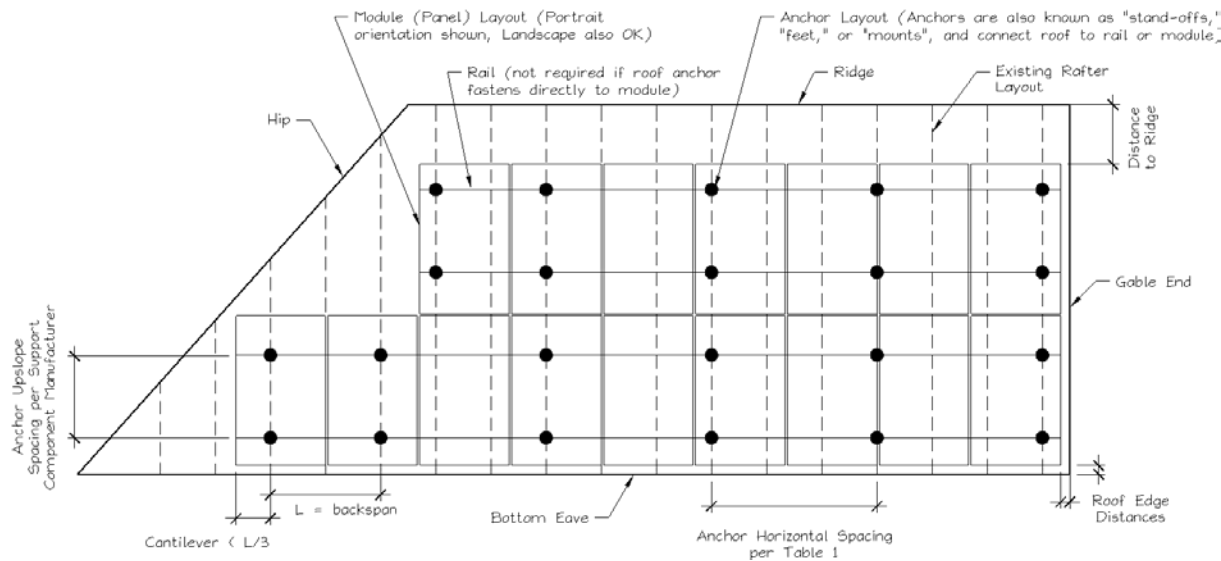

**Figure 1. Roof Visual Structural Review (Contractor's Site Audit) of Existing Conditions.**
- 2) Does the roof structure appear structurally sound, without signs of alterations or significant structural deterioration or sagging, as illustrated in Figure 1? ☐ Y ☐ N